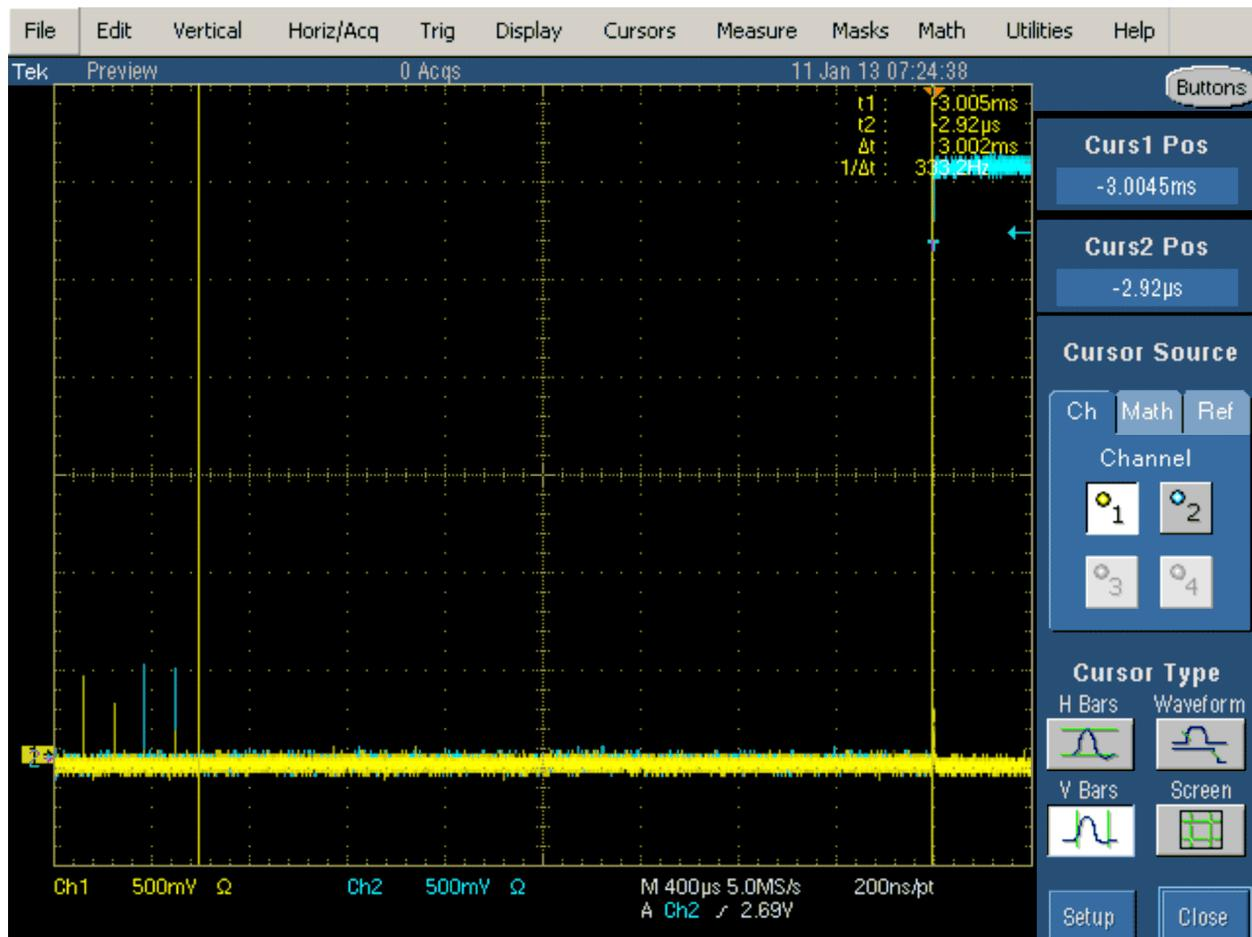

Figure 7. Suspend Test Result
10. Click EXECUTE once to place the device into suspend. The captured suspend transition should appear as in Figure 7.
The result consists of the time between the falling edge of D+ and the First SOF. This should not exceed 3.0 ms. The device should resume the HS operation, which is indicated by the presence of HS SOF packets (with 400 mV nominal amplitudes) following the K State driven by the host controller. See Figure 7. This is EL_40.
5. Click EXECUTE once to reset the device in suspend. The captured reset from suspend transition should appear as in Figure 7.